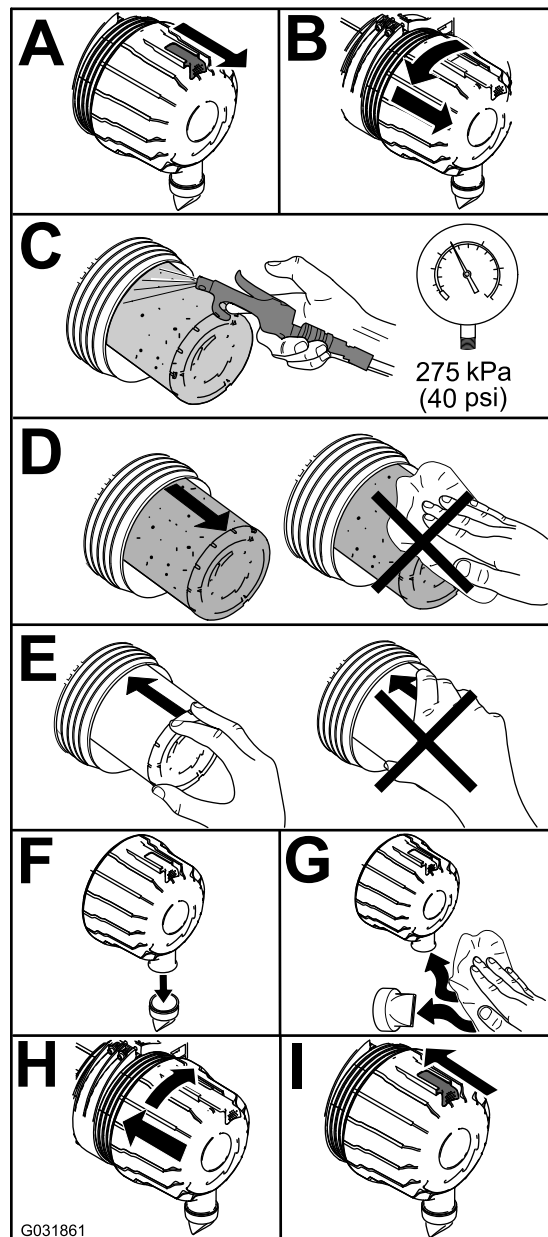

Figure 50
1. Replace the air cleaner (Figure 50).